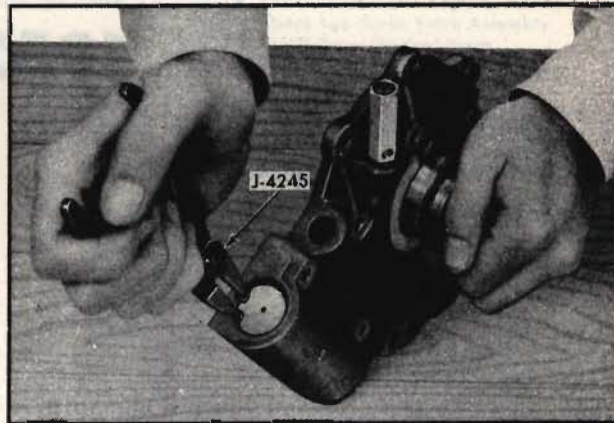

Fig. 2. Removing accumulator special snap ring
1. Using special pliers, remove the accumulator retainer ring (Fig. 2).